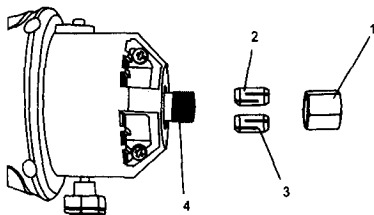

Fig. 3
The bits for this tool are locked into place with a collet nut (1) and collet (see Fig. 3). The tool is assembled at the factory with a $\frac{1}{8}$ " collet (2) which is used to hold the cutting bit. An additional $\frac{1}{4}$ " collet (3) is supplied for holding SMALL router bits with a $\frac{1}{4}$ " shank.